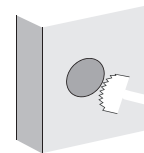

Figure 3a
- Drill 2.13" (54mm) hole through door panel as marked for lock set (Figure 3a).